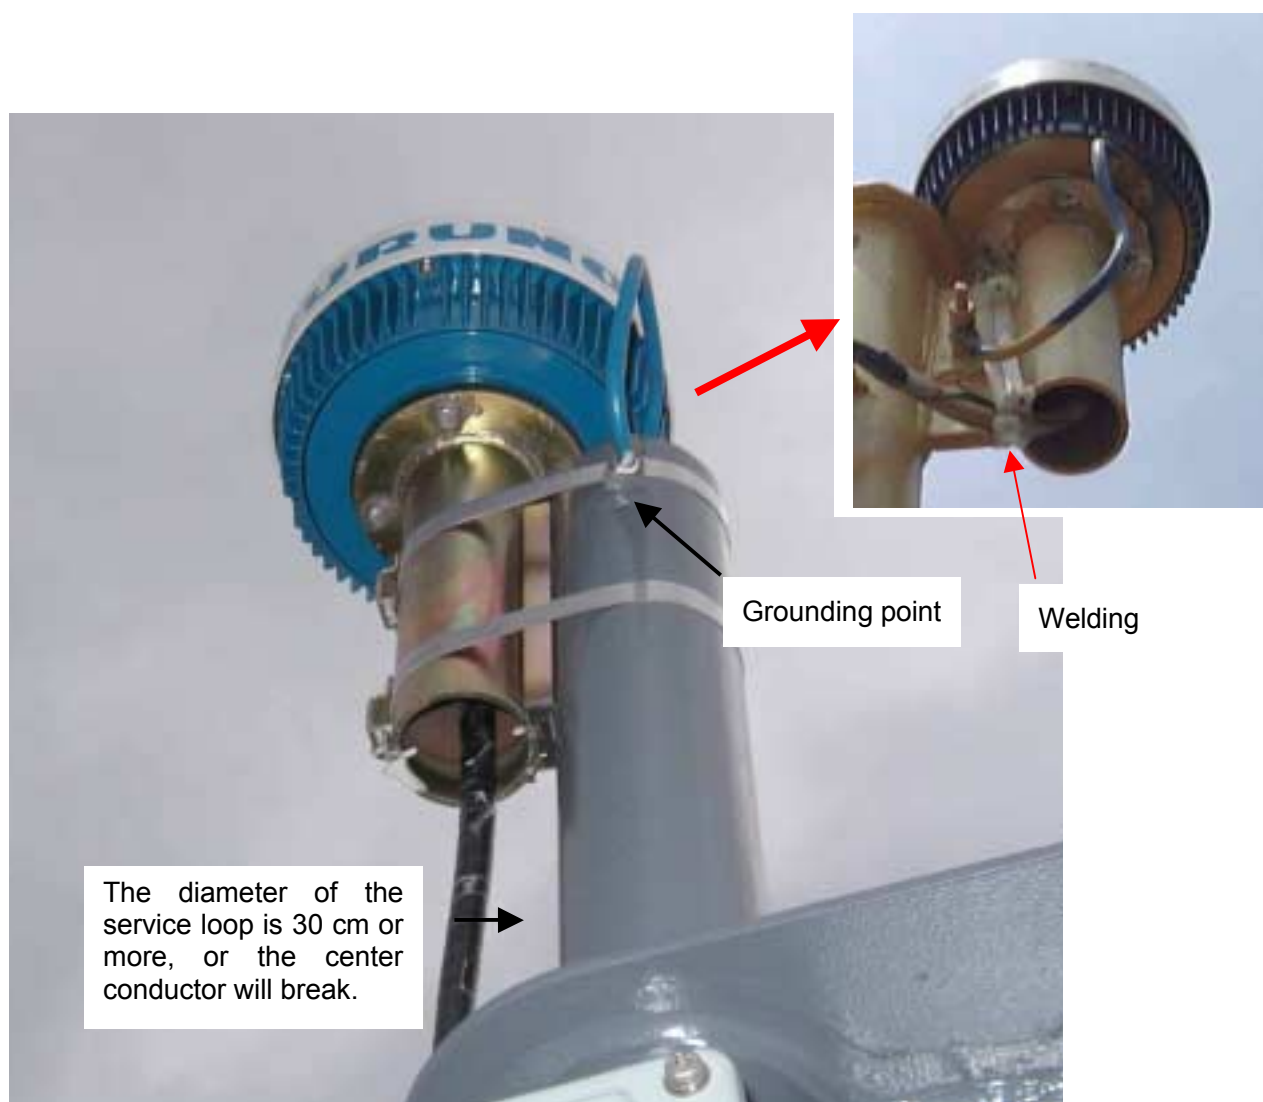

Fig. 2-6 Inmarsat C antenna unit
- ◇ Weld the antenna mounting pipe directly to the antenna pole. Mounting it with clamps is not recommended. (Fig. 2-6)